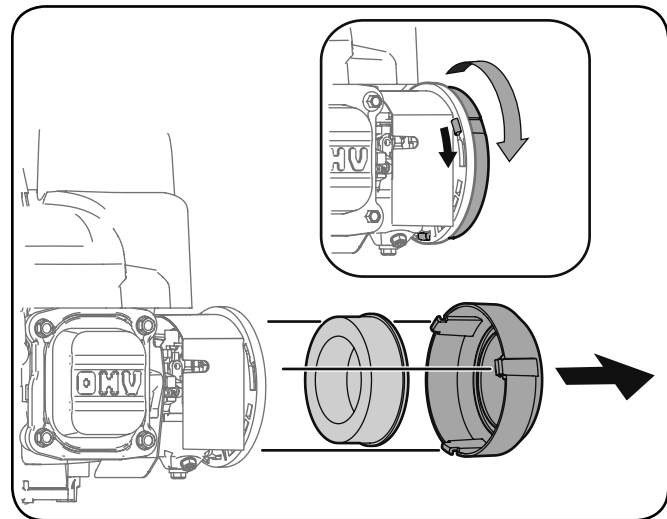

Figure 6-2
1. Remove the air filter cover by turning counter-clockwise then pulling it towards you. See Figure 6-2.